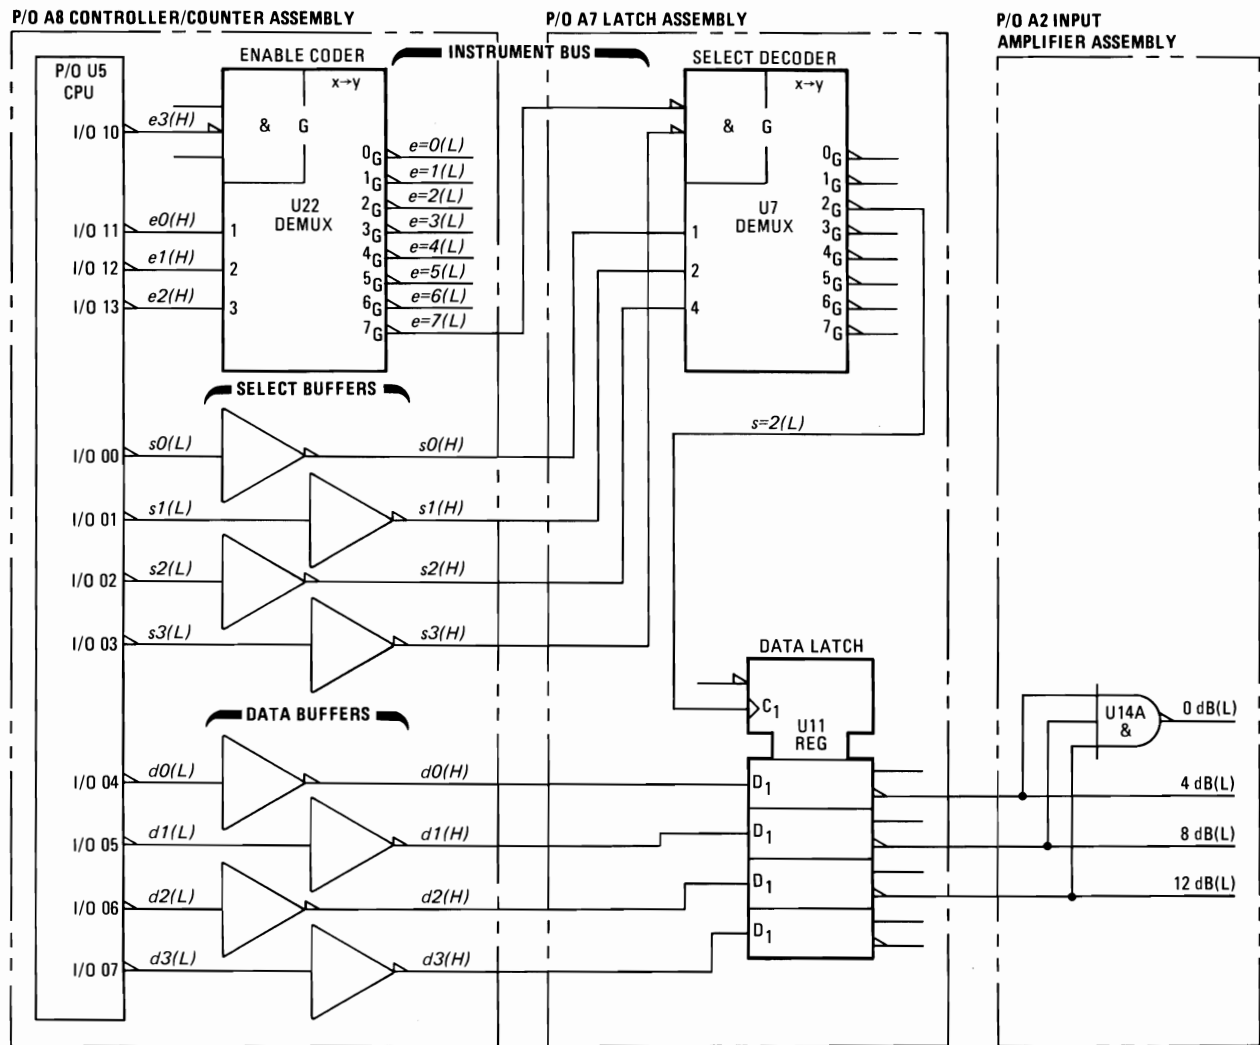

Figure 8-48. Example Showing Instrument Bus Hookup
Figure 8-48 shows a typical hookup on the Instrument Bus. The Instrument Bus lines are broken down into three groups: enable (e), select (s), and data (d). The enable code (e0 to e3) comes from I/O lines 10 through 13 of the CPU (A8U5). Three of the lines are decoded by the Enable Code Decoder (A8U22) to activate one of eight unique enable lines (e=0 to e=7). The fourth line enables the decoder itself. The enable lines run to the Keyboard, Remote Interface, and Latch Assemblies and to the Counter on the Controller/Counter Assembly. Typically, each line is dedicated to a specific operational function; e.g., enable line e=6 controls Oscillator tuning.
The example of Figure 8-48 will be used to illustrate how the 8 dB gain setting is selected for the Programmable Gain Amplifier on the Input Amplifier Assembly. The amplifier (not shown) is set for 8 dB gain when the output line labeled 8 dB(L) of Data Latch A7U11 goes low. A7U11 is on the Latch Assembly. Register U11 is simply a latch; it does not decode the data. To set the amplifier gain to 8 dB, the CPU sends out the binary enable code 0111 (hexadecimal 7), select code 0010 (hexadecimal 2), and data code 0010 (hexadecimal